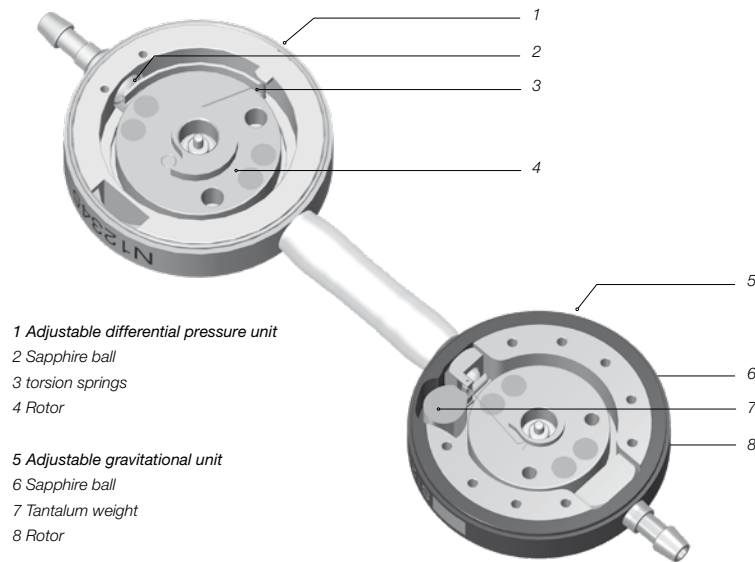

Fig. 1: Cross section of M.blue plus
M.blue plus is a valve made from titanium. It consists of an adjustable differential pressure unit (hereinafter *proGAV 2.0*) and an adjustable gravitational unit (hereinafter *M.blue*) (Fig. 1). The adjustable differential pressure unit in the proximal part of the valve (1) consists of a stable titanium housing in which a ball-cone valve (2) is integrated in the front section. A torsion spring (3) determines the opening pressure of this unit. The pretension of the spring, and therefore the valve opening pressure, can be adjusted through the skin using a revolving rotor on a bearing (4).